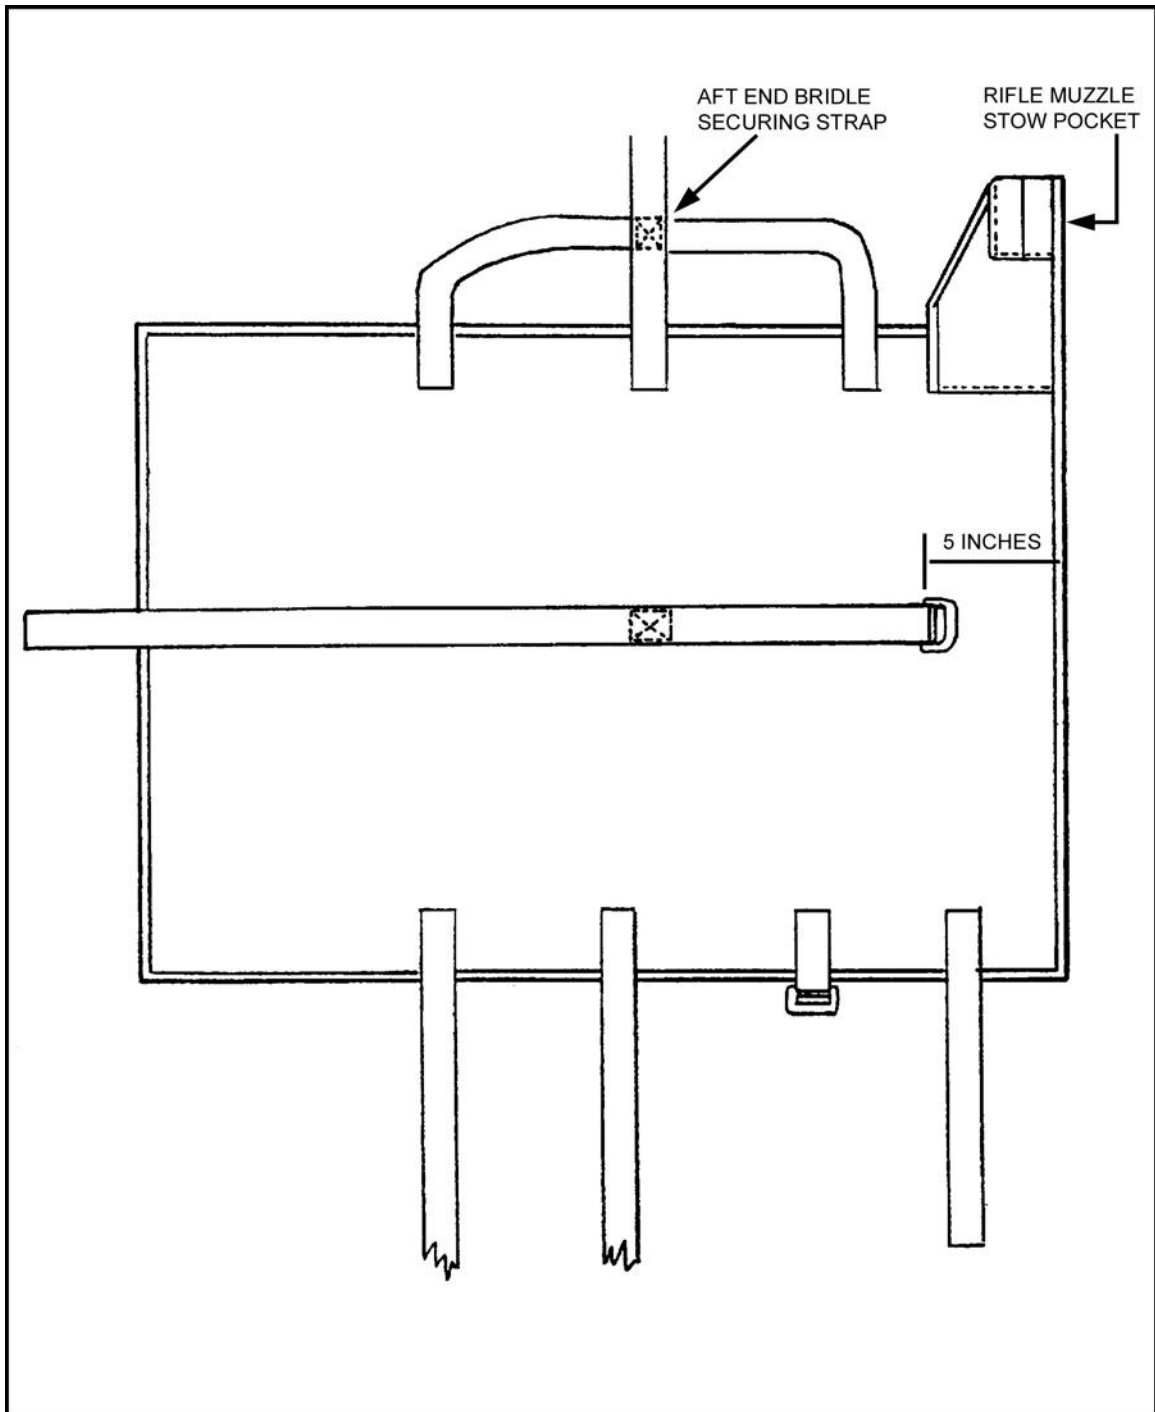

Figure 12-61. A-7A strap centered and stitched.
b. Cut the running end of an A-7A strap so its overall length is 38 inches. Place the strap on the center mark and stitch in place forming a 2 1/2-inch box-X stitch using No. 6 nylon thread. Ensure the buckle end is 5 inches from the side of the pack (Figure 12-61).